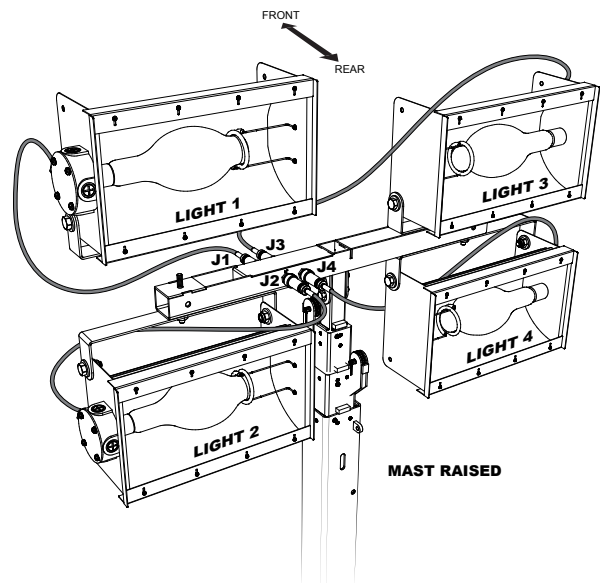

Figure 14. Light Power Cable Connections
4. Align the key tab (B) on the male connector with the slot or key (A) on the female connector and press together until seated. Connect the light power cables to the T-bar as referenced in Table 7 and Figure 14.
5. Secure all cable connectors by screwing the knurled locking nut of the male connector to the threaded portion of the female connector to ensure good contact between the two connectors. See Figure 14.